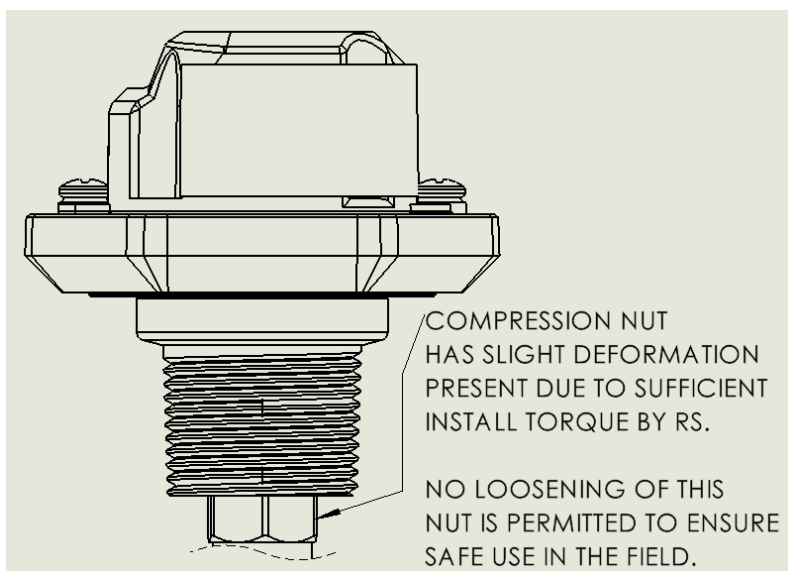

Figure 5: Compression Nut Condition Due to Rochester' Assembly Process with Warning of Its Loosening
4. Figure 5 below notes the condition of the as supplied probe and its compression nut condition. The compression nut shall not be tampered with in any way to ensure safe use in the field.